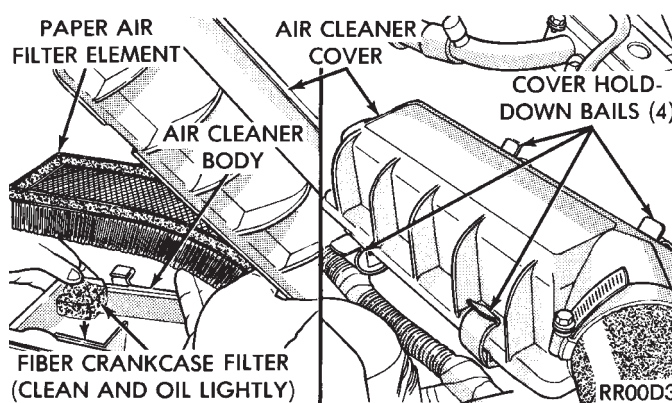
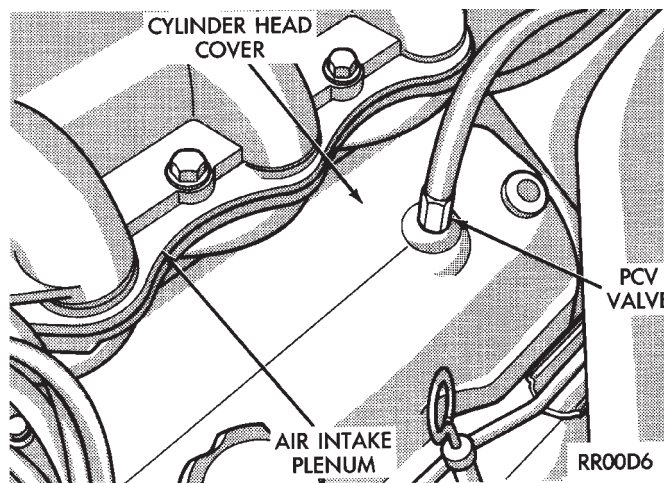

Fig. 7 Air Cleaner Assembly—3.0L Engine
Fig. 13 PCV System—3.0L Engine
- (1) Raise hood of vehicle and inspect all air cleaner components for damage or improper attachment.
- (2) Remove air cleaner cover (Figs. 7, 8, 9, 10 or 11).
- (4) Remove fiber crankcase filter (Figs. 7, 8, 9, 10 or 11) and clean with solvent, squeeze filter dry and apply small amount of engine oil. If a metallic mesh is used to retain fiber filter, clean mesh with solvent and reuse.
- (5) Clean inside of air cleaner cover and body with vacuum or compressed air. If oily, wash with solvent.
Engine crankcase pressure and emissions are vented into combustion chambers through the positive crankcase ventilation (PCV) system. The PCV system consists of a crankcase filter (Figs. 7, 8, 9, 10 or 11), PCV valve (Figs. 13, 14, 15 or 16) and hoses to complete a vacuum circuit. The PCV system should have enough volume to overcome crankcase pressure created by piston backwash. If a PCV system becomes plugged, the crankcase pressure will increase and force engine oil past the piston rings creating oil consumption. Blockage of PCV system can occur at the vacuum source coupling, PCV valve, crankcase filter or a collapsed hose.